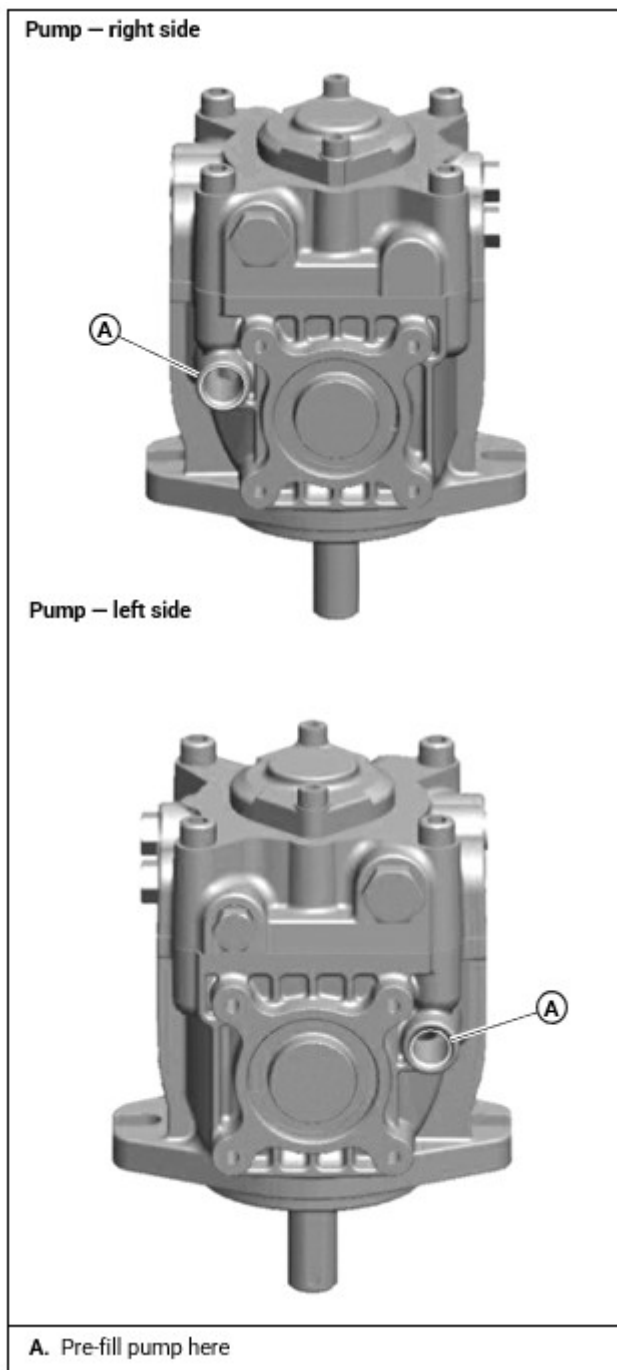

Figure 22
4. Before installing pump on machine, (either new or rebuilt) fill pump case with fresh, clean oil by removing case drain plug and adding 6 - 8 oz. of **15W50 synthetic oil or 20W50 synthetic oil** (Full Synthetic 20W50 Hydrostatic Transmission Oil is recommended), then install the hose fitting. [Figure 22]